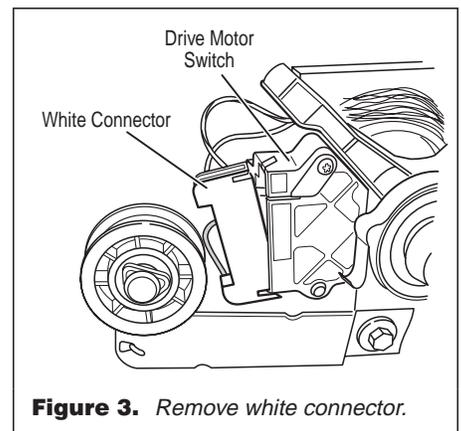

Figure 3. Remove white connector.
- ➔ Remove the white connector from the drive motor switch. See figure 3.